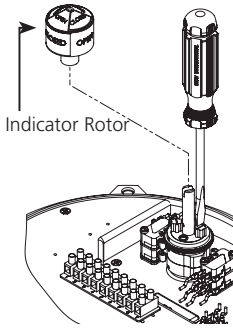

Figure 4. Indicator rotor pulled up from the indicator shaft.
1. Remove the indicator rotor by pulling it away from the indicator shaft as shown in Figure 4.